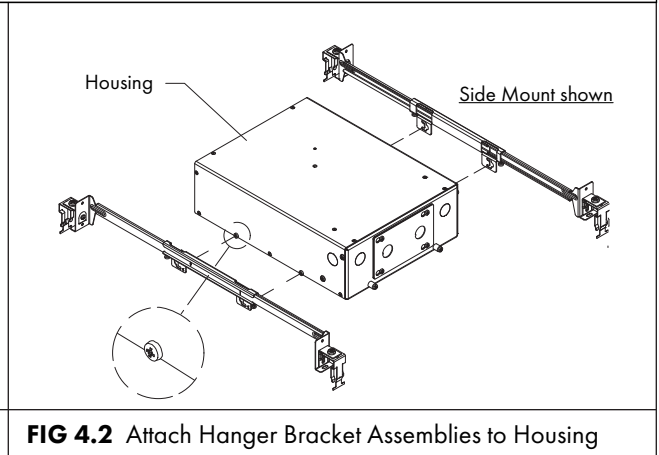

FIG 4.2 Attach Hanger Bracket Assemblies to Housing
STEP 2 Attach Bar Hanger Brackets to Housing in hole position #1 - **FIG 4.2**.